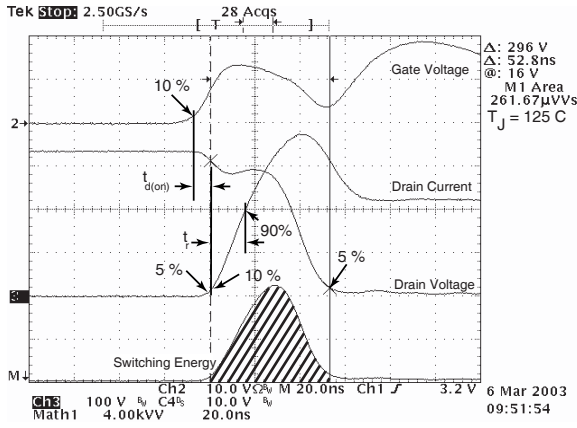

Figure 18, Turn-on Switching Waveforms and Definitions
① Repetitive Rating: Pulse width limited by maximum junction temperature
② Pulse Test: Pulse width < 380 μs, Duty Cycle < 2%
③ See MIL-STD-750 Method 3471
④ Starting T_J = +25°C, L = 3.97mH, R_G = 25Ω, Peak I_L = 22A
⑤ dv/dt numbers reflect the limitations of the test circuit rather than the device itself. I_S ≤ -I_D22A di_S/dt ≤ 700A/μs V_R ≤ V_{DSS} T_J ≤ 150°C
⑥ E_{on} includes diode reverse recovery. See figures 18, 20.